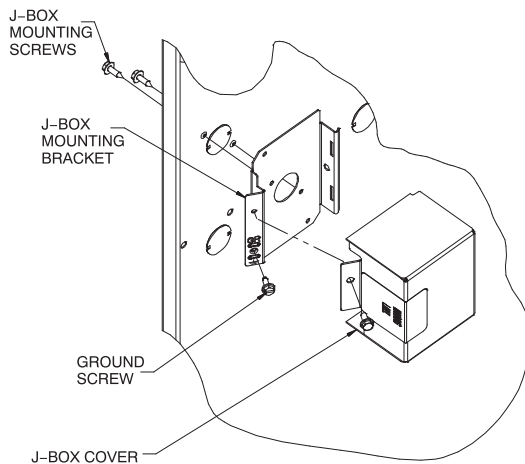

Fig. 34 - Installing J-Box (When Used)
The J-Box cover, mounting bracket and screws are shipped in the loose parts bag included with the furnace. See Fig. 34 for J-Box mounting locations.
1. Drill two (2) 1/8-in. (3 mm) pilot holes through the dimples in the furnace casing near the 7/8-in. knock-out on the side of the casing. Do not remove the knock-out in the side of the casing.
9. Connect field power and neutral leads to furnace power leads inside the external electrical box as shown in Fig. 34.
1. Install J-Box mounting bracket to inside of furnace casing. See Fig. 34.
5. Connect field ground wire and factory ground wire to green ground screw on J-Box mounting bracket as shown in Fig. 34.
7. Attach furnace J-Box cover to mounting bracket with screws supplied in loose parts bag. Do not pinch wires between cover and bracket. See Fig. 34.
4. Connect field ground wire and factory ground wire to green ground screw on J-Box mounting bracket as shown in Fig. 34.